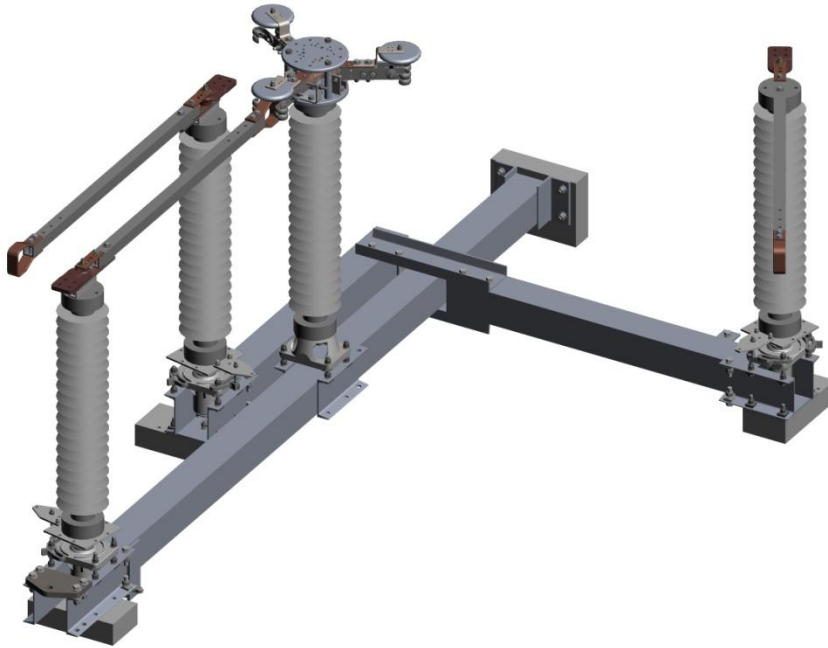

Figure 4: Unfolding First Base Member
2) Rotate switch base member 90°. See Figure 4.